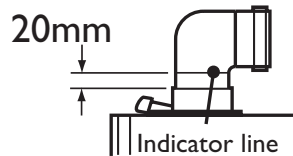
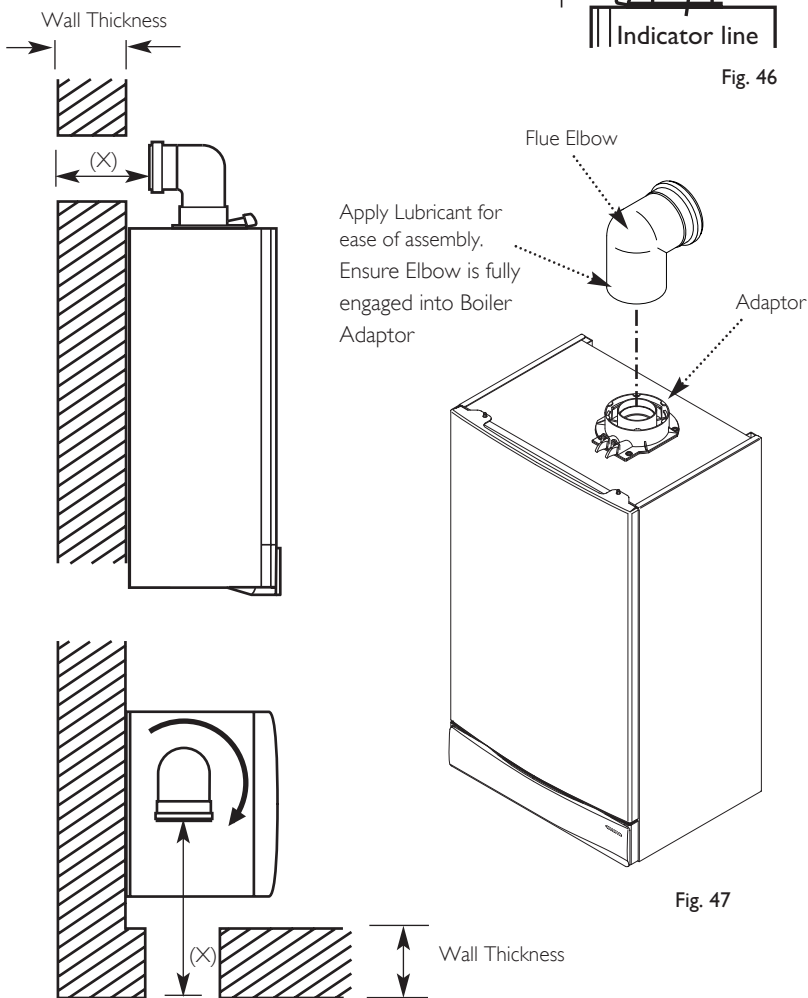

Fig. 46
Fig. 47
2. Locate the flue elbow on the adaptor at the top of the boiler. Set the elbow to the required orientation (Fig. 47). The elbow is fully engaged when there is a distance of 20mm from the adaptor to the indicator line (Fig. 46).